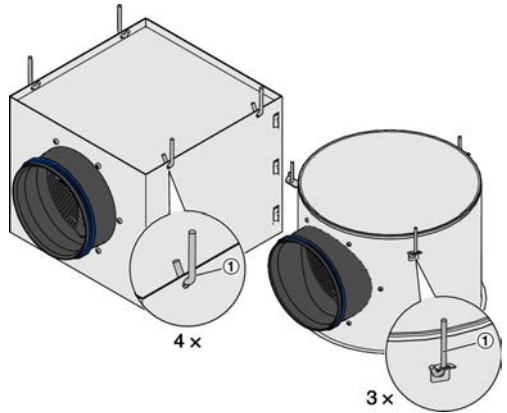

Fig. 2: Plenum box (square/circular)
- ▶ Fix the suspension parts such as ropes, cables or metal hangers (Fig. 2/1) to the ceiling.